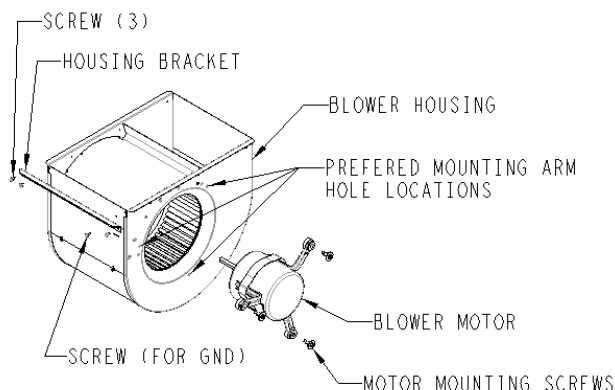

Fig. 1 – Blower Housing Assembly
This instruction covers the installation of replacement blower housing kit (See Fig. 1). The kit is designed to allow easy replacement of existing housing.
NOTE: See Fig. 1 for heater wiring label location (models and corresponding labels see Table 1).
9. Remove housing bracket from existing housing (See Fig. 1) and discard existing blower housing and wheel.